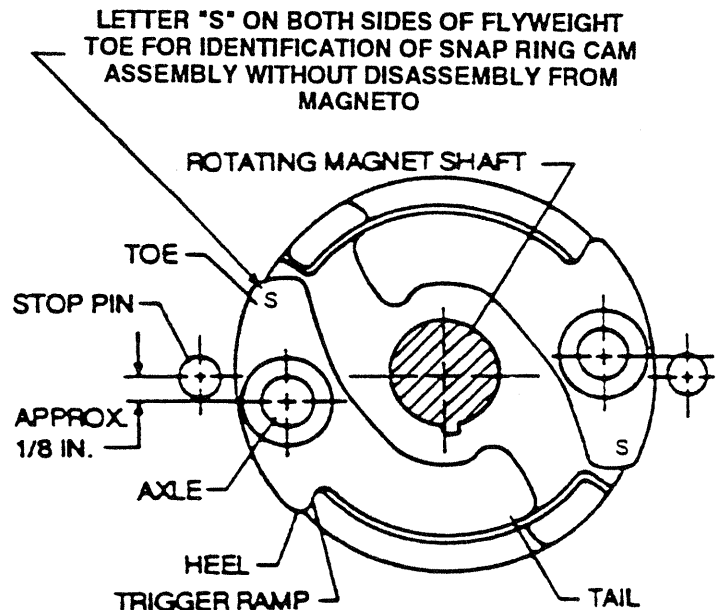

Figure 603. Flyweight Terminology
- (2) Slowly bring engine up to number one cylinder advance firing position as instructed in engine handbook. At this position timing light should go out. If it does, the magneto is properly timed to the engine. If the timing light does not go out, remove magneto from engine and perform internal timing check and inspection as specified in paragraph 6.2.3 step G of this chapter.
For all S-21, S-23 and S-25 series magnetos, inspect snap ring impulse couplings (8) at the first 500 hours in service and every 500 hours thereafter, or inspect riveted impulse couplings (8) at the first 100 hours in service and every 100 hours thereafter. Snap ring cam assemblies may be distinguished by the "S" mark on both sides of the toe of each flyweight as shown in Figure 603.
- (1) Rotate the impulse coupling so the flyweight axles are next to the stop pins. Position flyweight as shown in Figure 603. Lock rotor in place using 11-8465 rotor holding tool.